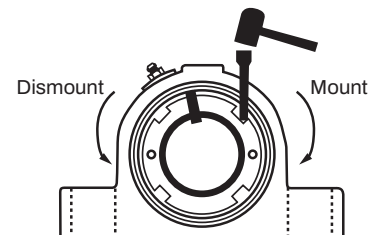

Figure 3
4. Rotate locknut counterclockwise until bearing freely slides from the shaft (Figure 3).